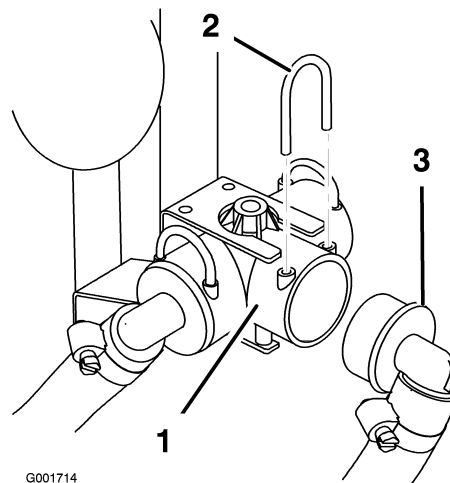

Figure 5
1. Locate the valve assembly on the right side of the tank, remove the retaining fork to disconnect the boom supply hose from the supply tee (Figure 5).